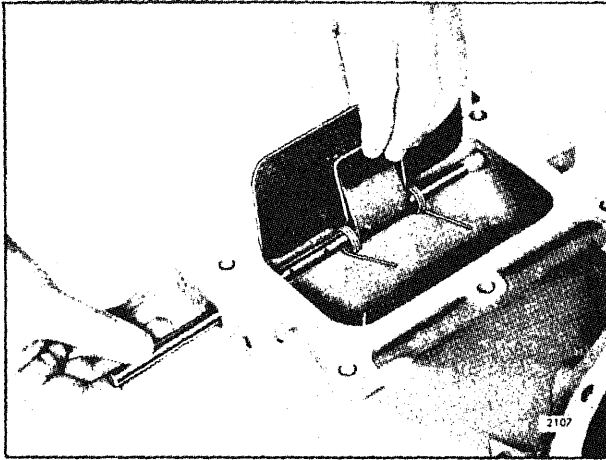

Fig. 2 - Installing Air Shut-Off Valve Spring and Valve
4. Note the position of the air shut-off valve spring and the valve (Fig. 2); then withdraw the shaft from the housing to release the valve and the spring. Remove the valve and spring and the seal ring from the housing.
1. Place the valve(s) and spring in position in the housing (Fig. 2) and slip the shaft in place. The shaft must extend .70" from the side of the housing where the shut-down latch is assembled.